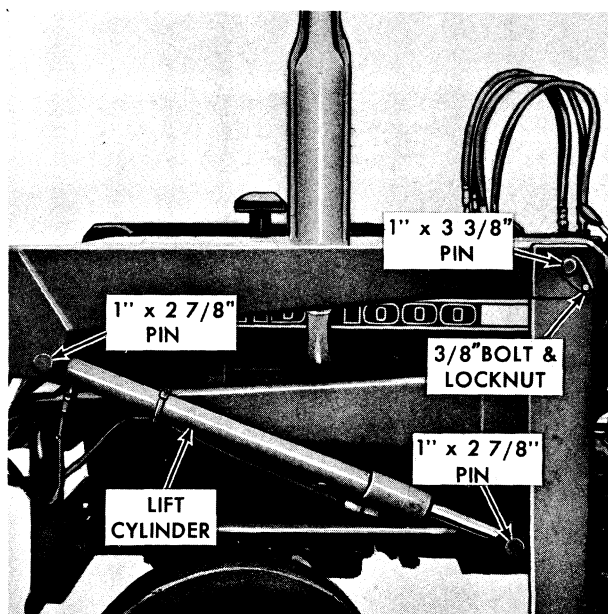

Figure 20
8. Install the loader arms to the side frames with 1" X 3-3/8" long pins as illustrated in Figure 20. (One on each side).
9. Install the lift cylinders, Figure 20, between the loader arms and loader frame. Secure the cylinder ends to these members with the 1" X 2-7/8" pins and secure the pins with the 1/4" X 1-1/2" cotter pins.
7. Secure the handle, Insert, Figure 20, to the trip line.